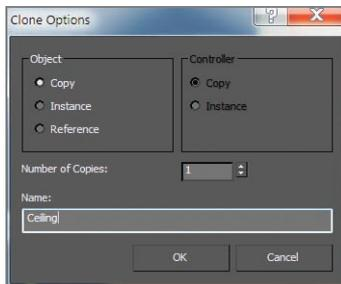

FIGURE 3.17 The Clone Options dialog box
11. Let go of the mouse; a Clone Options dialog box will appear, as shown in Figure 3.17.